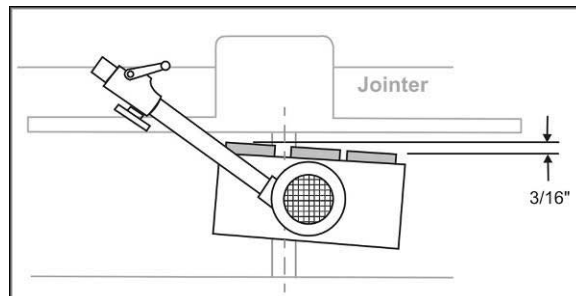

Figure 20
- Mount the 3-roller stock feeder on a jointer so that the cutterhead is between the outfeed roller and the center roller (Figure 20). The 4-roller stock feeder can be positioned so that the cutterhead is between the center rollers.
3. Rotate the Stock Feeder so that the direction of feed is angled slightly toward the fence by approximately 3/16" (5mm); that is, the outfeed roller should be slightly closer to the fence than the infeed roller. See Figures 20 and 21.